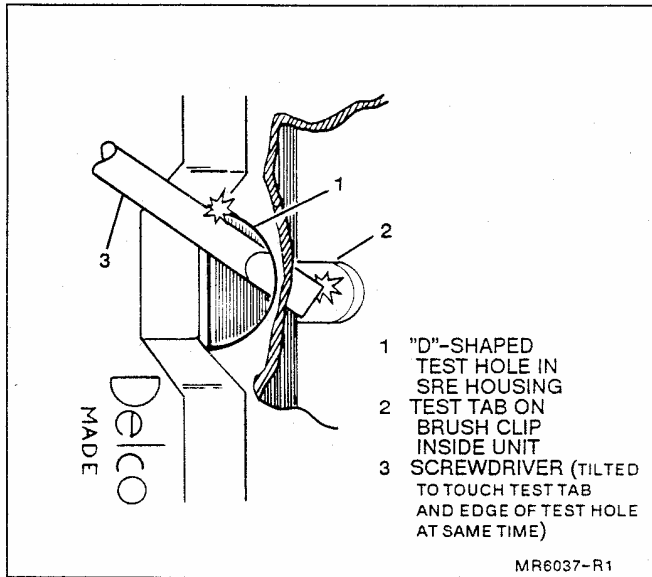

Figure 8. Using Test Hole
4. Test hole is provided in SRE housing to allow direct grounding of rotor field circuit (Fig. 8). Grounding the brush tab inside this hole bypasses the regulator and turns the generator on in "full field" mode. If the generator output is proper with the brush tab grounded, the previous low output is due to conditions within the regulator. Because the voltage is not regulated and can exceed 16 volts in full field mode, the test hole should be used only for bench test procedures.